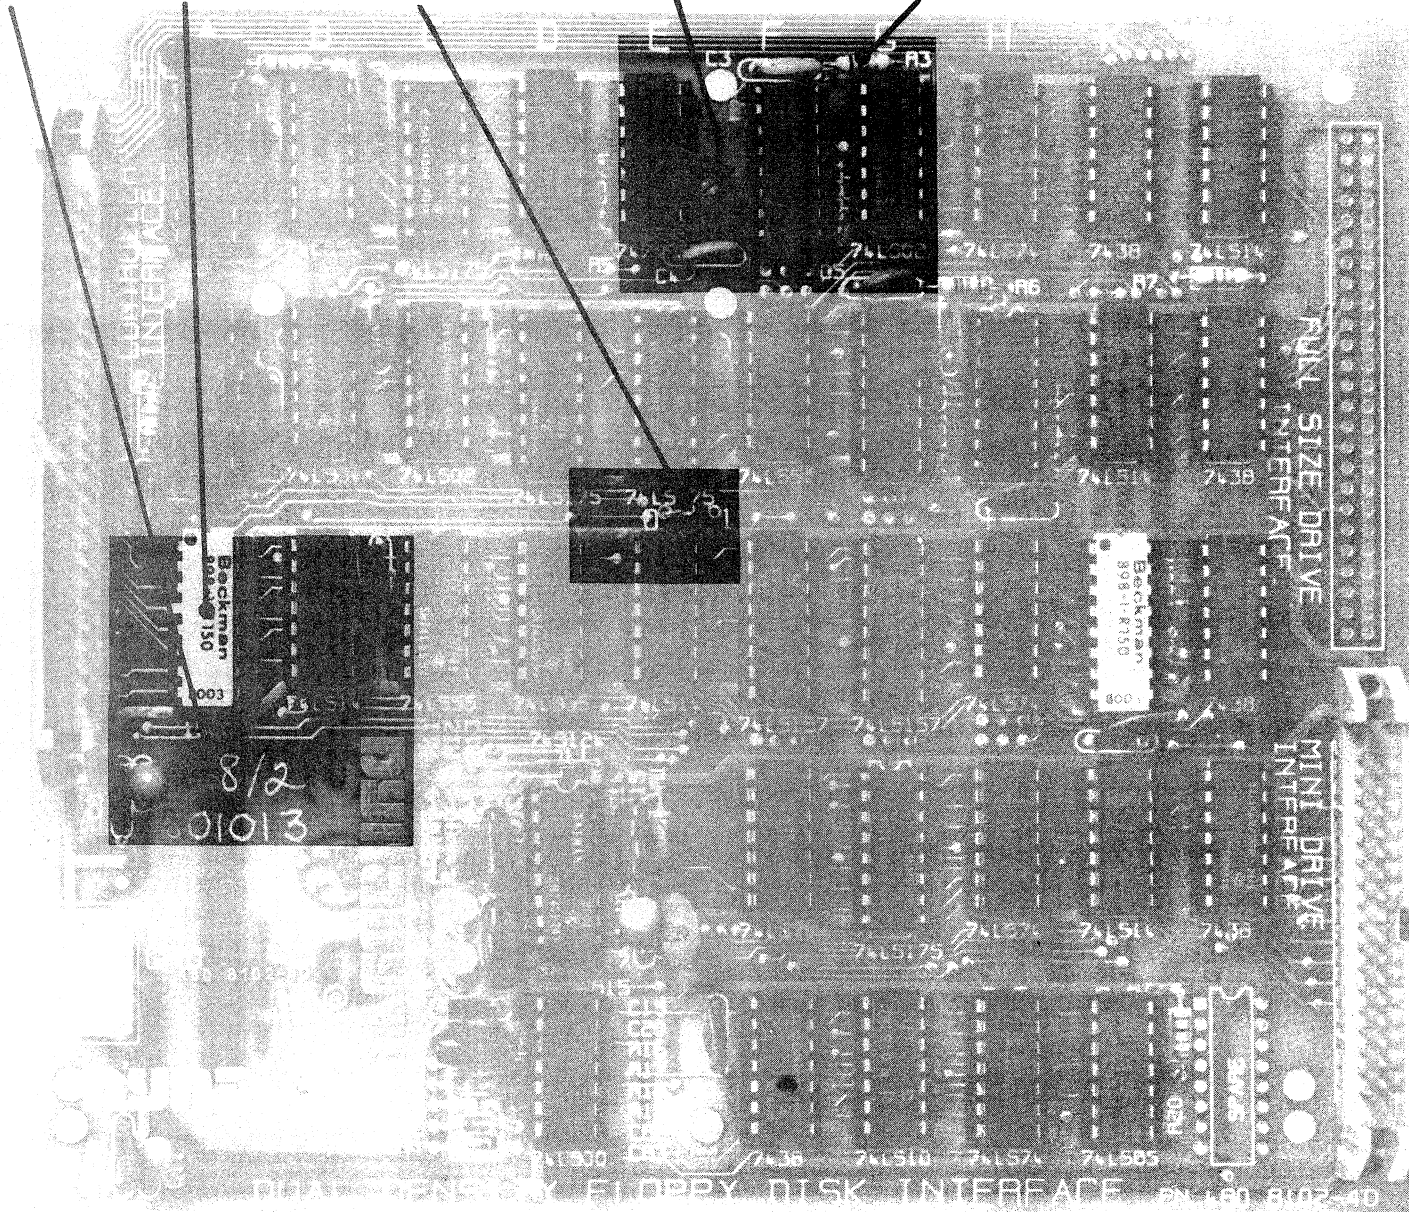

Figure 2-2 – 5200 Auxiliary Disk Controller – 800703
- (1) The Auxiliary Disk Controller, 800703, is installed in the 5200 Computer Unit. Refer to Figure 2-2.